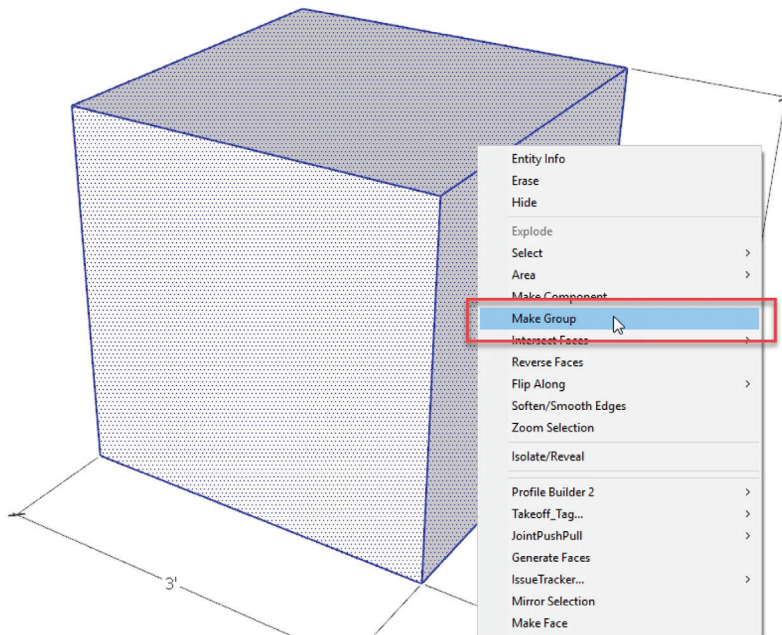

Figure 4.6 Make Group.
10. Right-click anywhere within the blue highlighted cube, and you will notice a new menu pops up. Select Make Group from the menu, as shown in Figure 4.6.